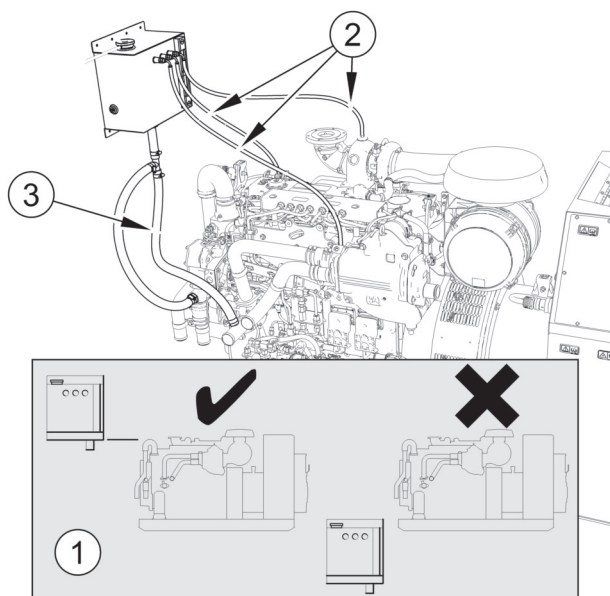

Figure 33
- 1 Mount the remote expansion tank in a position where the bottom of the unit is as shown in figure 33.
- 2 Connect the new bleed hoses (item 2) to the tank and the fittings on the engine.
- 3 Connect the main inlet hose to the engine (item 3).